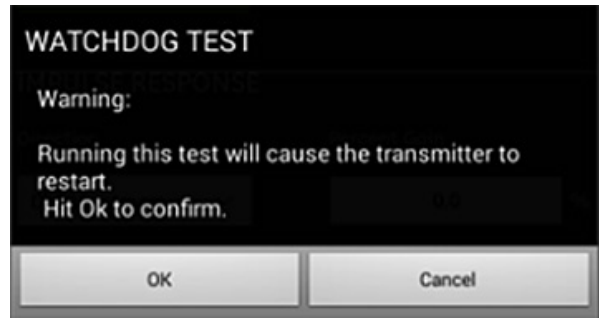

Figure 130: Watchdog test warning
2. A properly functioning PT900 restarts if the *watchdog test* is run, and a warning message similar to *Figure 130* below is displayed.